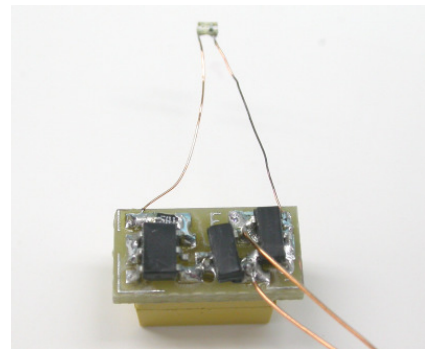

figure 2: Correct connection of the LEDs
5. In figure 2 you can see as well the connections for the LEDs. The component operates up to 3 LEDs in red. All the LEDs have to be connected in parallel. We have set up a constant brightness with the help of a resistor. The component works best with our LEDs 7050 or 8100. A different degree of brightness can only be accomplished by a change of the resistance. After consultation with us, yellow LEDs usually can be operated by the component as well, but it can not operate any other colors than red and yellow.
6. Looking onto the component like in figures 2 and 3, on the top left in the corner you can see the output for plus, so for the anode of the LED, and way on the right with the long conductor you can see the output for minus, so for the cathode of the LED. The cathodes of our LEDs are marked with black color. An incorrect polarity though does not inflict any damage, neither on the component nor on the LED, the only problem is that the LED won't be working.